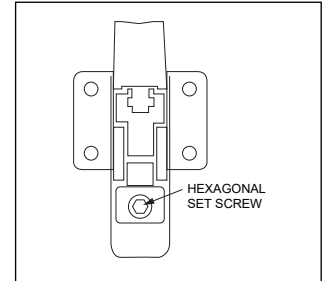

Figure 16 Door Latch Set Screw
- b. Loosen the hexagonal door rod set screws (found on the door latches, Figure 16).